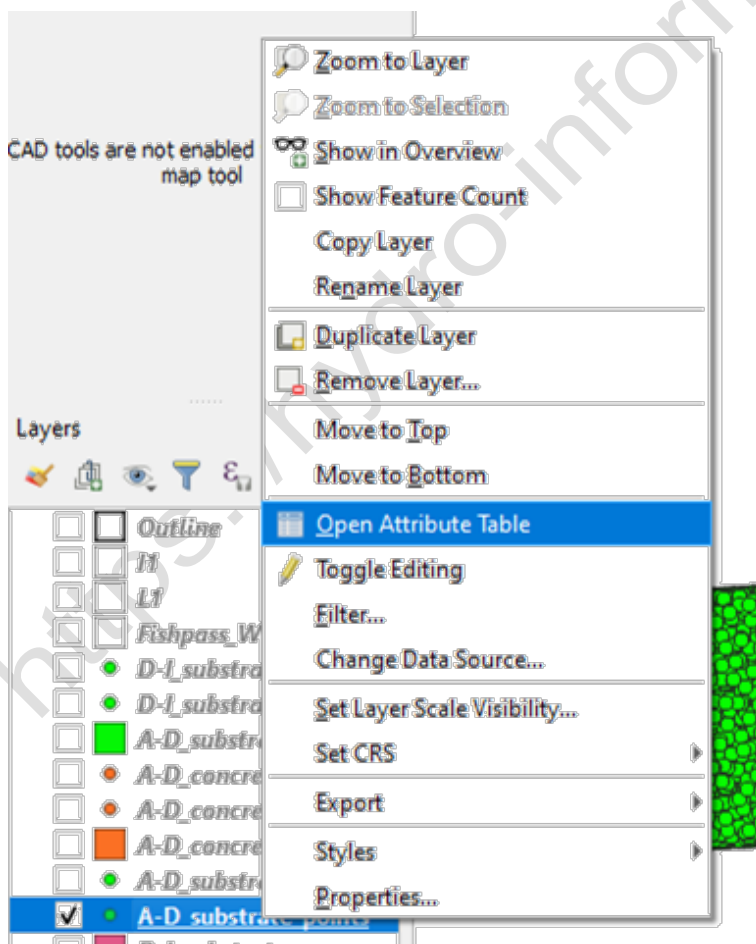

Figure 5. Open Attribute Table.
4. Select the newly created point shapefile and open its Attribute Table (Figure 5).